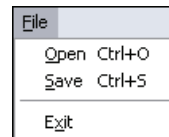

Figure 6-4. LabVIEW Run-Time Menu
12. Create a custom run-time menu to perform the Load, Save, and Exit functions. Figure 6-4 shows the completed menu.
- ☐ Select **File** in the **Preview** section to preview the menu and verify that it matches Figure 6-4.